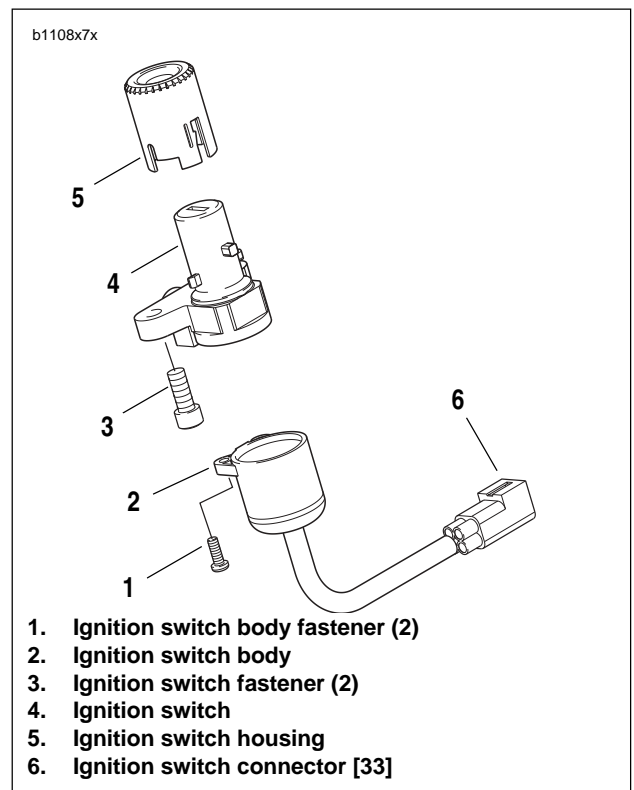

Figure 7-5. Ignition Switch Assembly
10. Remove the upper fork clamp (4) from forks.
11. See Figure 7-5. Use Snap-on Tamper-Resistant T45 Torx driver, Part No FTXR45E to remove ignition switch fasteners (3) securing ignition switch (4) to upper fork clamp. Slide ignition switch out of upper fork clamp.
1. See Figure 7-5. Remove ignition switch housing (5) from ignition switch (4) by prying tabs on side of housing
2. Remove ignition switch body fasteners (1). Separate ignition switch body (2) from ignition switch (4).
See Figure 7-5. In next step, be sure wide slot in ignition switch housing (5) is installed over wide boss on ignition switch (4).
1. Push ignition switch housing (5) on to ignition switch (4).
2. See Figure 7-5. Attach ignition switch assembly to upper triple clamp using ignition switch fasteners (3). USE LOCTITE THREADLOCKER 272 on fasteners. Tighten to 18-20 ft-lbs (24.4-27.1 Nm).